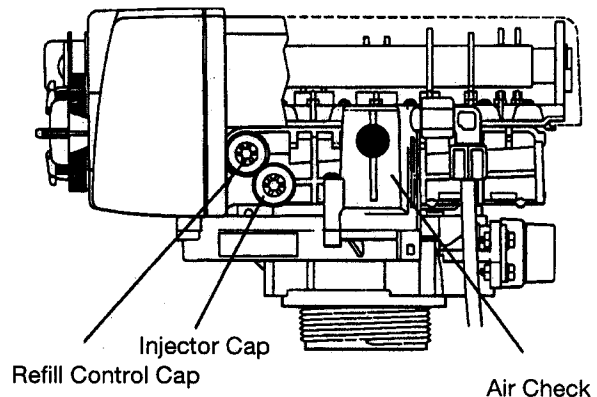
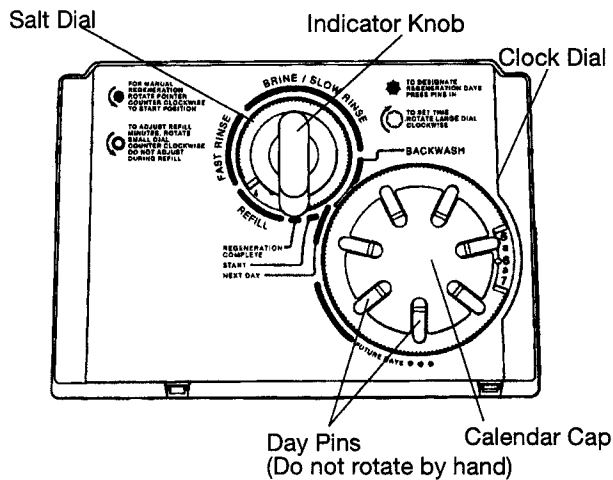
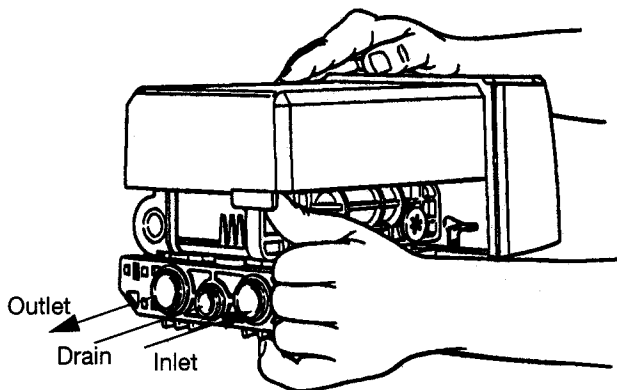

Figure 7
Figure 8
Figure 10
Grasp the Indicator Knob on the timer (Figure 8) and rotate it **counterclockwise** about 45° to the backwash position. You may find it helpful to remove the rear cover (Figure 10) and rotate the camshaft counterclockwise at the same time.
4. To start-up the unit: make sure the water supply valve is in the full open position. Carefully rotate the Indicator Knob, (Figure 8), **counterclockwise** until the indicator points directly to the center of the **REFILL** position and hold there until the air check (Figure 7) fills with water and water flows through the brine line into the brine tank. Do not run the water into the brine tank for more than one or two minutes.
1. Set days of regeneration (Figure 8).
Guest Cycle. When abnormally high water usage exhausts your water conditioner's capacity ahead of schedule, an extra regeneration can be achieved by turning the Indicator Knob **counterclockwise** to **START**, Figure 8. It will take a few minutes for regeneration to begin. The normal regeneration schedule will not be disrupted.
With the Indicator Knob in the REGENERATION COMPLETE position (Figure 8), rotate the Salt Dial counterclockwise at least one full turn to cancel out the previous setting. A light clicking will be replaced by a heavier clicking when the previous setting is cancelled. Then, rotate the Salt Dial to the proper salt setting.
2. Remove the rear cover by pushing back on the tab provided on the cover with your thumb, Figure 10. Next, lift the cover off the valve.
2. Shut off the water supply or put the bypass valve(s) into the bypass position and remove the rear cover, Figure 10.